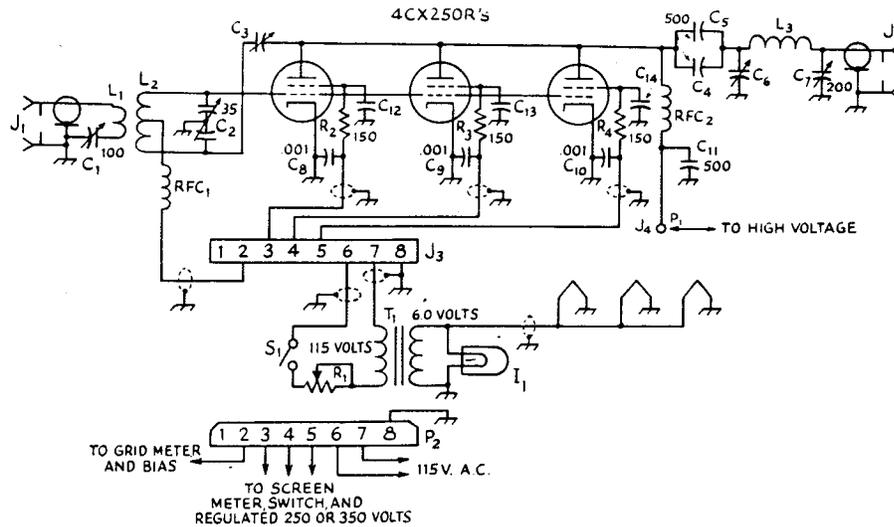
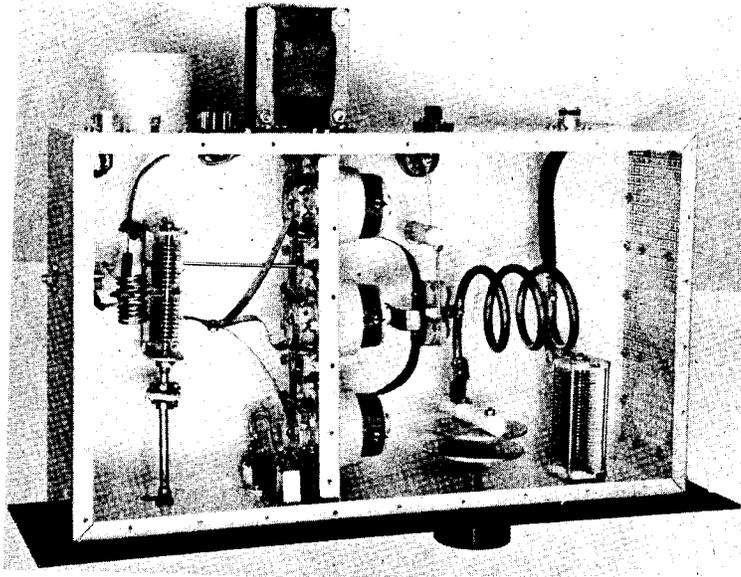
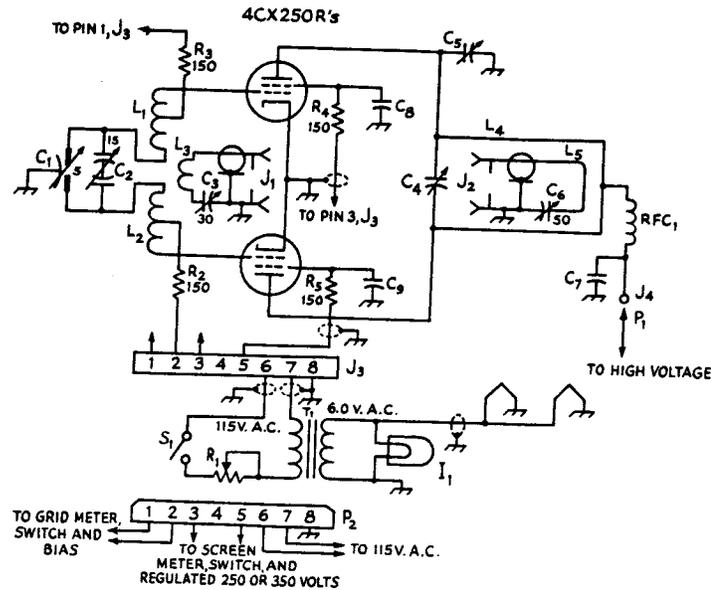

Fig. 6-39 — Schematic diagram and parts information for the 50-MHz amplifier.
Fig. 6-40 — Interior of the 50-MHz amplifier. Note method of paralleling grid and plate connections.
Fig. 6-42 - Schematic diagram and parts information for the 144-MHz amplifier.
- C6 — Tuning capacitor made from 3-inch aluminum disks — see text and Fig. 6-40.
Looking at the interior view, Fig. 6-40, we see the grid compartment at the left. The coaxial input fitting, J1 in Fig. 6-39, is in the upper left corner of the picture. Coax runs from this, out of sight on the left wall, terminating in a loop, L1, made from its inner conductor. This is inserted between turns at the center of the grid coil, L2. The series capacitor, C1, is just visible on the left chassis wall. It is not particularly critical in adjustment, so no inconvenience results from its location away from the front panel.
The disk tuning capacitor can be made in several ways. Flashing copper is easy to work, and the 144-MHz capacitor was made of this material. A more sturdy disk can be made from 1/8-inch aluminum. Those shown in Fig. 6-40 were 3-inch meter cutouts from an aluminum panel. Disk-type neutralizing capacitors (if you can find them; they're not common catalog items these days) provide ready-made disks and lead screw for tuning. For the latter we used 3-inch 1/4-20 brass screws from a neighborhood hardware store. A panel bushing with brass nuts soldered to it provided the lead-screw sleeve. The stationary disk is supported on 1/2-inch-diameter Teflon rod, a material also used for the rf choke form. Teflon works easily and is unexcelled for insulating applications where high temperatures are encountered. We found it reasonably priced, in various diameters, at a local plastics house.
The plate rf choke, RFC2, is important. You'll probably have to make it to get one of sufficiently good quality. For more on this see information under Fig. 6-39 and "RF Chokes for the VHF Bands," Chapter 16. Two coupling capacitors were paralleled because we've experienced trouble with exploding capacitors in pi-network plate circuits in
At the tube end of the plate line, L4 in Fig. 6-42, we have brass castings normally used to join sections of the copper pipe. They make a nice sliding fit over the tube anodes. For tighter fit, cut thin brass shim stock and insert as much as needed between the anode and the sleeve. The end of the fitting can be slotted and then clamped firm on the anode with a hose clamp, as an alternative. The short at the B-plus end of the line is made with two T fittings, with their flanges cut down to 1/2 inch and slipped over a short section of the pipe that is not visible. Joints throughout the assembly were silver-soldered with a torch, but conventional soldering should do equally well. The flanges at the
The last instruction and the information about the plate line given under Fig. 6-42 apply only if the fittings are identical to those obtained by the builder. Since there are several types of fittings available from plumbing supply houses, the following overall dimensions should be heeded: tube end of the plate line to center-line of short - 10 3/8 inches; spacing of pipes center to center - 3 1/2 inches.
These amplifiers were tested without neutralization and we almost got away with it, but use of all modes, particularly a-m linear and ssb, imposes strict requirements on stability. Conventional cross-over neutralization employed in the 144-MHz amplifier is omitted from Fig. 6-42 in the interests of clarity. The schematic representation, C3 in Fig. 6-39, is not very informative either.
In the 50-MHz amplifier the lead visible in Fig. 6-40, attached to the rear stator terminal of C2, runs to a polystyrene feedthrough bushing (National TPB) mounted in the partition between the rear and middle sockets. Even this bushing's wire stub projecting into the plate compartment turned out to be too much "C3" and it was trimmed off 1/16th inch at a time, until minimum feedthrough was indicated on a wavemeter coupled to L3 and tuned to the driving frequency.